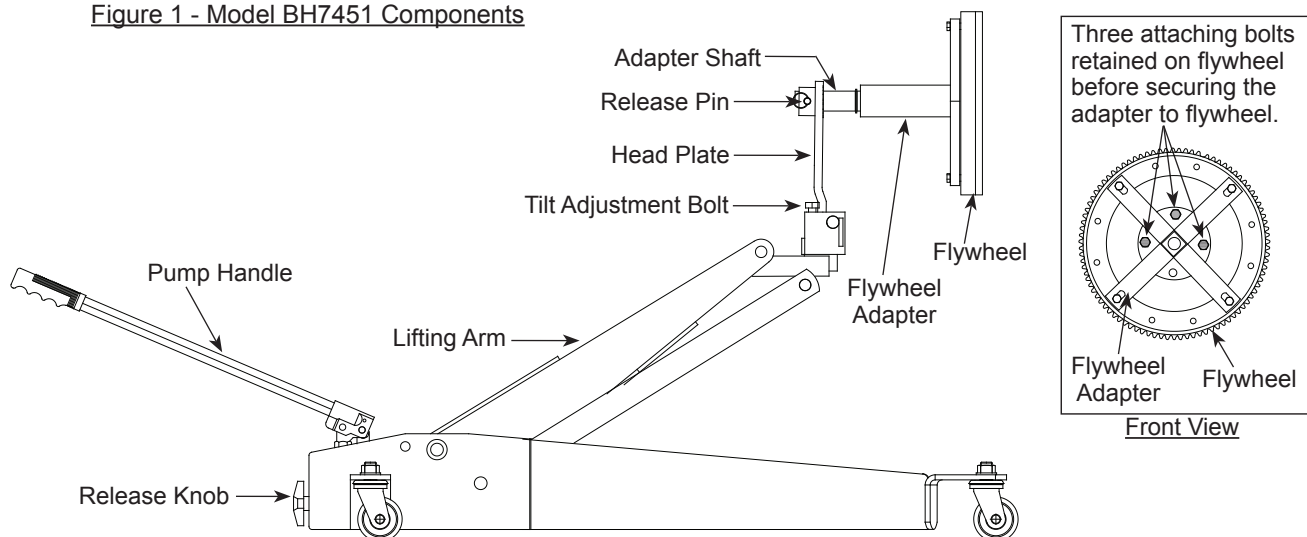

Figure 2 - Flywheel Adapter Operational Illustration
1. Remove all the flywheel attaching bolts (flywheel to crankshaft bolts) except for the top bolt and two 90 degree to the top bolts pointed in Fig. 2.
2. Install the flywheel adapter as shown in Fig. 2. Close the release knob fully. Pump the handle to raise the lift arm and align the flywheel adapter to the flywheel using the tilt adjustment bolt.
1. Close release valve knob, pump the handle and raise the flywheel into position shown in Figure 2 for installation. Adjust the flywheel using tilt adjustment bolt to align the flywheel with the crankshaft.